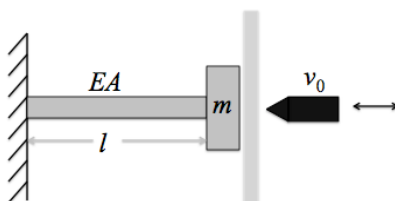

Figure P1.82 A bar model of a punch fixture.
1.82 A bar of negligible mass fixed with a tip mass forms part of a machine used to punch holes in a sheet of metal as it passes past the fixture as illustrated in Figure P1.82. The impact to the mass and bar fixture causes the bar to vibrate and the speed of the process demands that frequency of vibration not interfere with the process. The static design yields a mass of 50 kg and that the bar be made of steel of length 0.25 m with a cross sectional area of 0.01 m². Compute the system's natural frequency.
1.83 Consider the punch fixture of Figure P1.82. If the system is giving an initial velocity of 10 m/s, what is the maximum displacement of the mass at the tip if the mass is 1000 kg and the bar is made of steel of length 0.25 m with a cross sectional area of 0.01 m²?
- 1.84** Consider the punch fixture of Figure P1.82. If the punch strikes the mass off center it is possible that the steel bar may vibrate in torsion. The mass is 1000 kg and the bar 0.25 m-long, with a square cross section of 0.1 m on a side. The mass polar moment of inertia of the tip mass is $10 \text{ kg}\cdot\text{m}^2$. The polar moment of inertia for a square bar is $b^4/6$, where b is the length of the side of the square. Compute both the torsion and longitudinal frequencies. Which is larger?